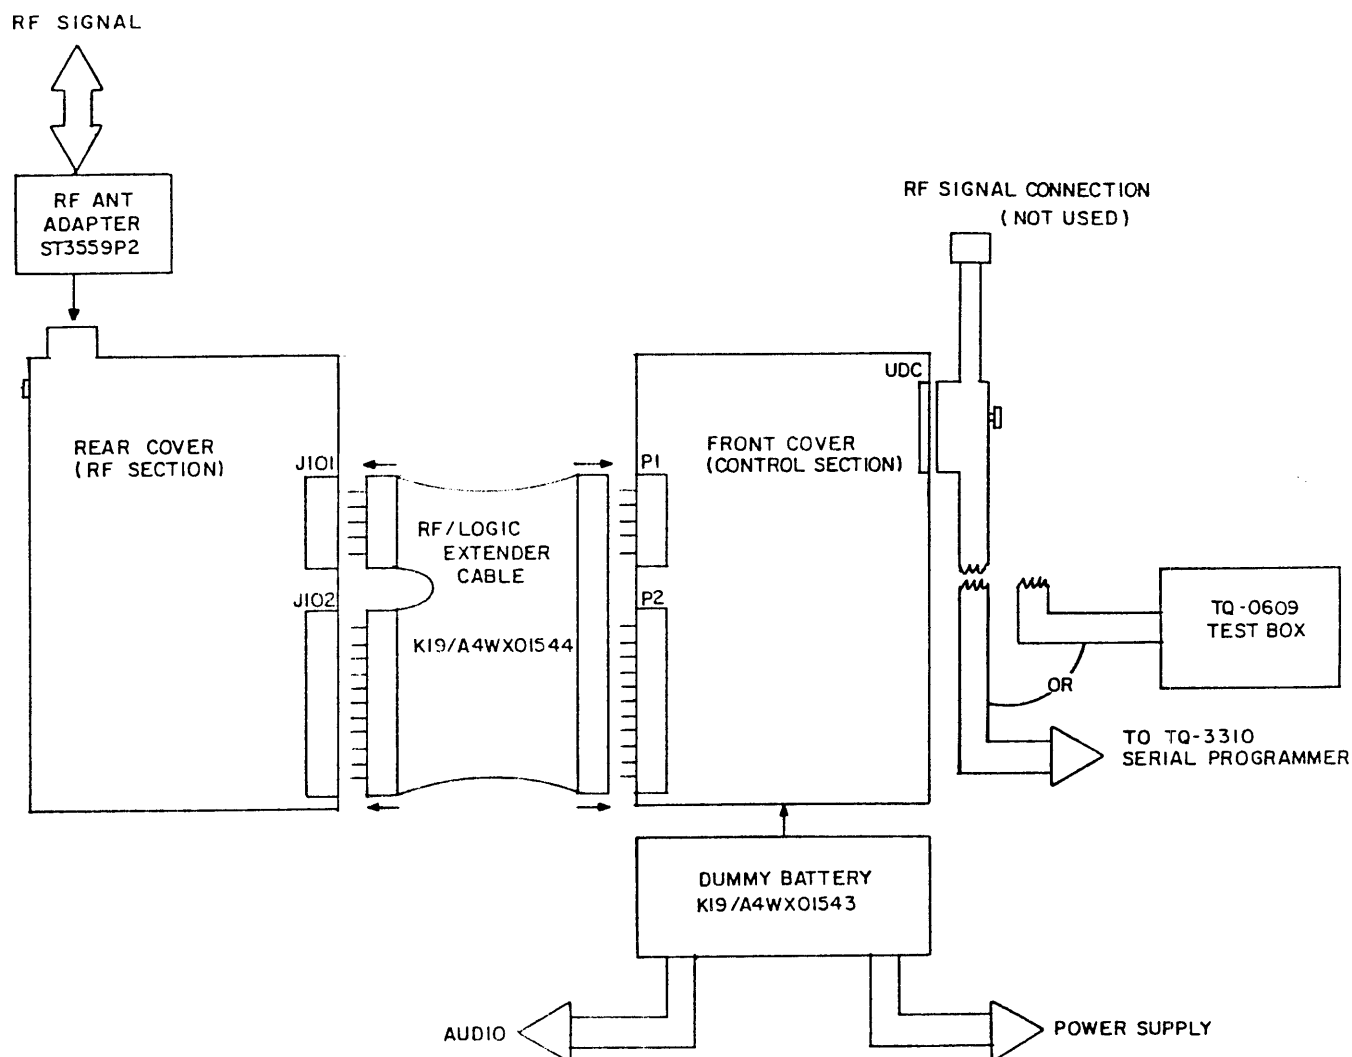

Figure 7 - Test Set-Up
1. Separate the Front and Rear Cover Assemblies and connect the RF/Logic Extender cable between the RF Board and the Control Board. See Figure 7. Use caution when working with these connectors.